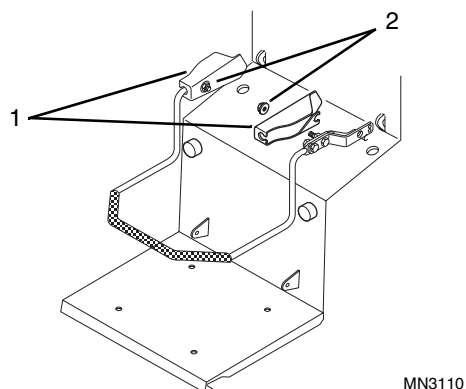

Figure 9-45 Restraint Bar Spring Cover Installation
39. Install the left (Fig. 9-45, 1) and right restraint bar covers, and secure with a hex flange nut (2) on each side.